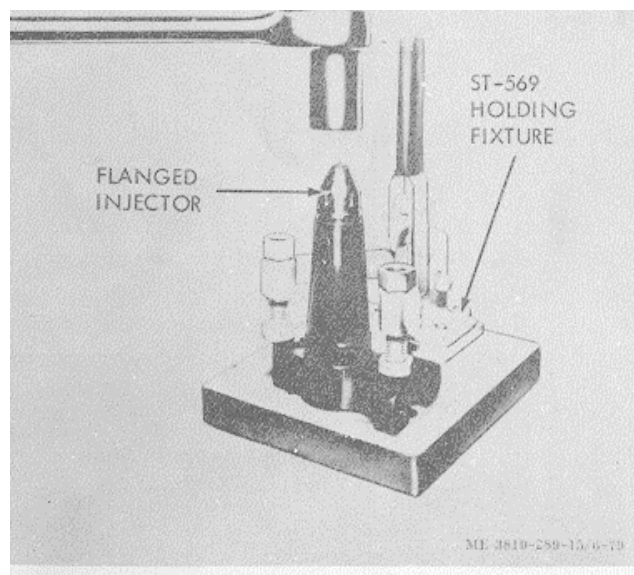

Figure 3-75. Injector in ST-569 holding fixture.
(2) Place injector in ST-569 Holding Fixture so the fixture spring tension is against injector plunger. Use spacers listed in table 2-2 to get required spring tension, figure 3-75.